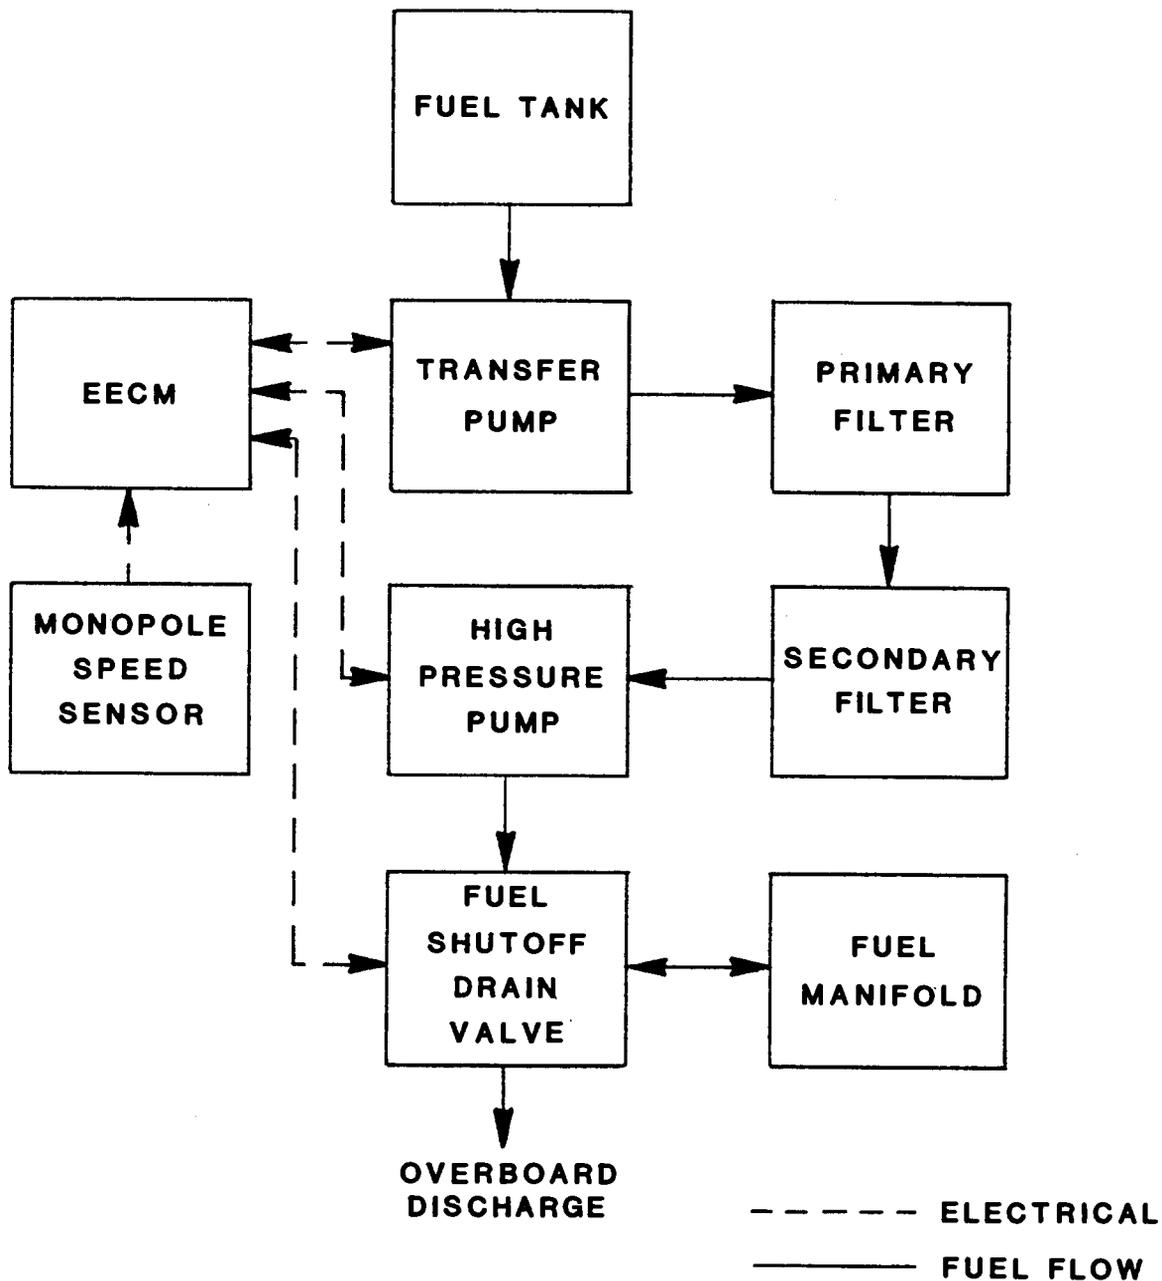

Figure 6-1. Fuel System Block Diagram
**6-1. PURPOSE AND FUNCTION OF FUEL SYSTEM.** The fuel system (figure 6-1) is an electronically actuated and controlled system, providing a clean, continuous flow of fuel to the fuel injection nozzle atomizers. The electrical fuel transfer pump provides a continuous fuel flow of 5-7 psi (34-48 Pa) to the primary fuel (fluid) filter. The fuel is filtered in the primary filter, then routed through the secondary fuel (fluid) filter. Changes in engine speed are sensed at the monopole speed sensor and a signal is transmitted to the engine electronic control module (EECM), where fuel quantity is determined and demand signals are set to the electrical high pressure fuel pump. High pressure fuel then goes through the solenoid valve to the fuel injection nozzle atomizers. To prevent carbon and varnish deposits in the turbine engine after engine shutdown, the pressurized fuel supply is stopped and fuel between the solenoid valve and the fuel injection nozzle atomizers is discharged through the solenoid valve outside the generator set.